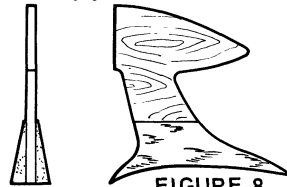

FIGURE 8
**Step 18.** Glue side braces, made from 1" trailing edge stock, in place at bottom. Tailor to fit wing curve as in Fig. 8.